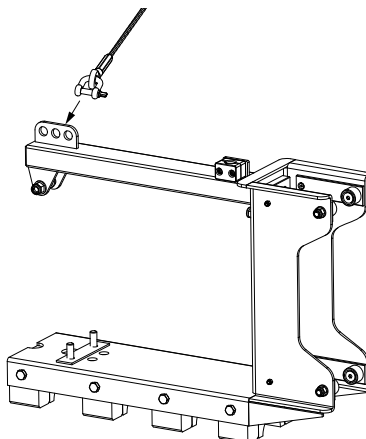

Fig. 20 Mounting of the lifting wire on the motor bracket
16. Mount the lifting wire (15) on the motor bracket using the shackle. See fig. 20.